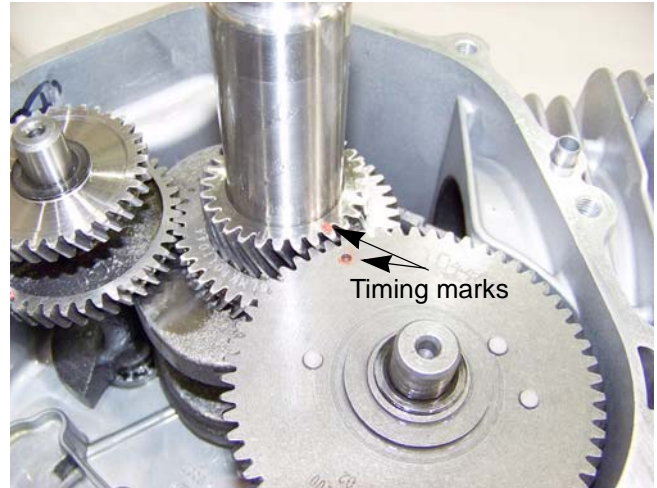

Figure 10.2
11. Align the timing marks on the cam and the crankshaft to allow easier removal of the cam and to help protect the compression relief from damage. See Figure 10.2.